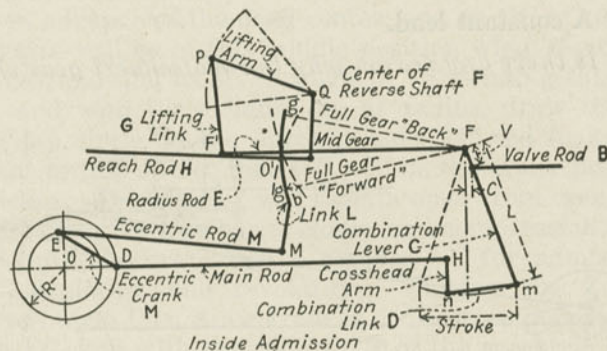
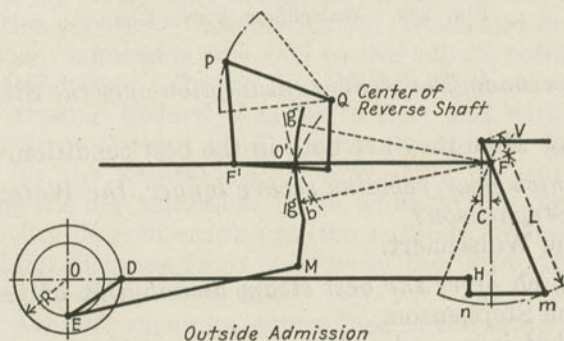

Fig. 295. Walschaert Gear, American Locomotive Works.
Fig. 296. Walschaert Gear, American Locomotive Works.
*A.* Fig. 295 shows it for inside admission, Fig. 296 for outside. The principal difference between this arrange-
A. By designing the combination lever  $C$ , Fig. 295, for maximum lead in mid gear, reducing it to a desired minimum at full gear by shifting the eccentric crank  $M$  in the right direction, the proper amount.